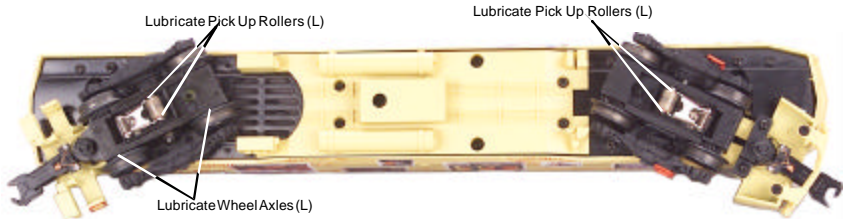
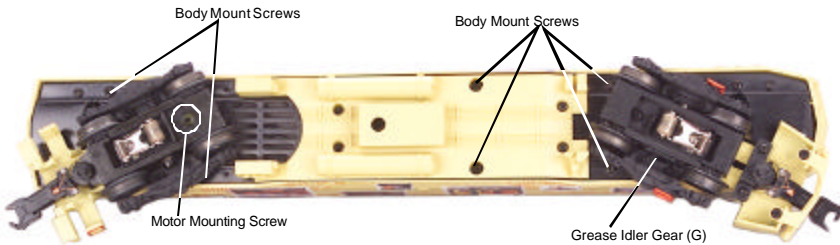

Figure 5. Lubrication Points on the Locomotive
Figure 6. Location of Body Mount Screws and Greasing Points on the Locomotive
1. Although the engine was lubricated at the factory, it is important that you lubricate the chassis before operation. Lightly grease the outside idler and drive gears (marked “G” in Fig. 6 on pg. 13) with lithium-based grease to prevent them from squeaking. Use light household oil and follow the lubrication points marked “L” in Fig. 5 on p. 12. Do not over-oil. Use only a drop or two on each pivot point.
You should regularly lubricate the engine to prevent it from squeaking. Use light household oil and follow the lubrication points marked “L” in Fig. 5. Do not over-oil. Use only a drop or two on each pivot point.
1. To access the gear box, remove the cab from the chassis by unscrewing the chassis screws as seen in Figure 6 and lifting the cab from the chassis.
2. Once the cab is removed, remove the trucks by unscrewing the black Phillips motor mount screw located on the underside of the drive trucks (see Fig. 6).
Lubricate the outside truck block idler and drive gears with grease. Use the diagram shown in Figure 6 below as a guide and add grease to the points marked with a “G.”